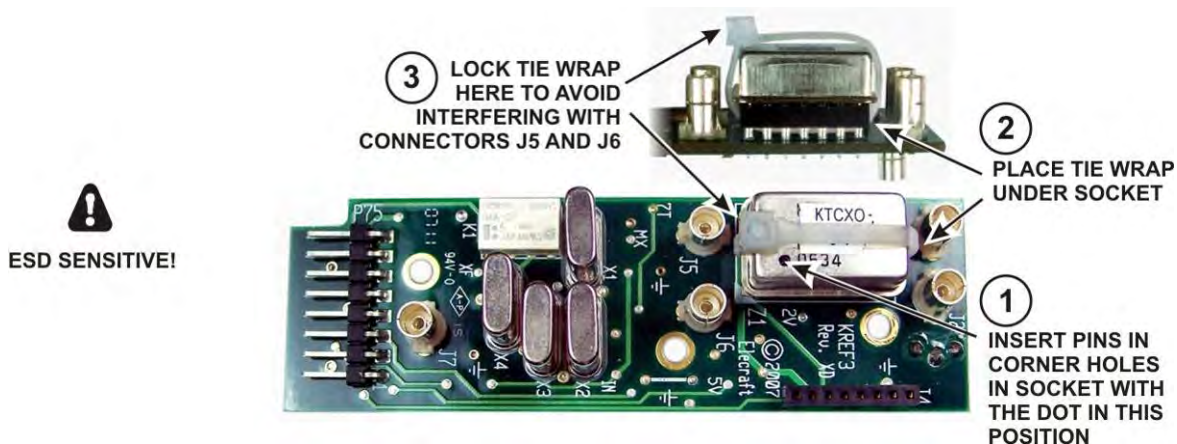

Figure 69. Mounting TCXO Module on KREF3 Board.
□ Mount the TCXO module on the KREF3 board as shown in Figure 69. Be certain the leads go into the corner holes in the socket and the black dot is oriented toward connector J6 as shown. If you have a 1ppm high-stability module, the dot may be light brown and not as close to the corner. If the module has only three leads, the missing lead will be in the corner with the dot. If you have the standard 5ppm TCXO, the bottom may be slightly above the socket when the leads are fully inserted. Tighten the tie wrap enough to ensure the oscillator so it cannot fall out but do not bend the leads.